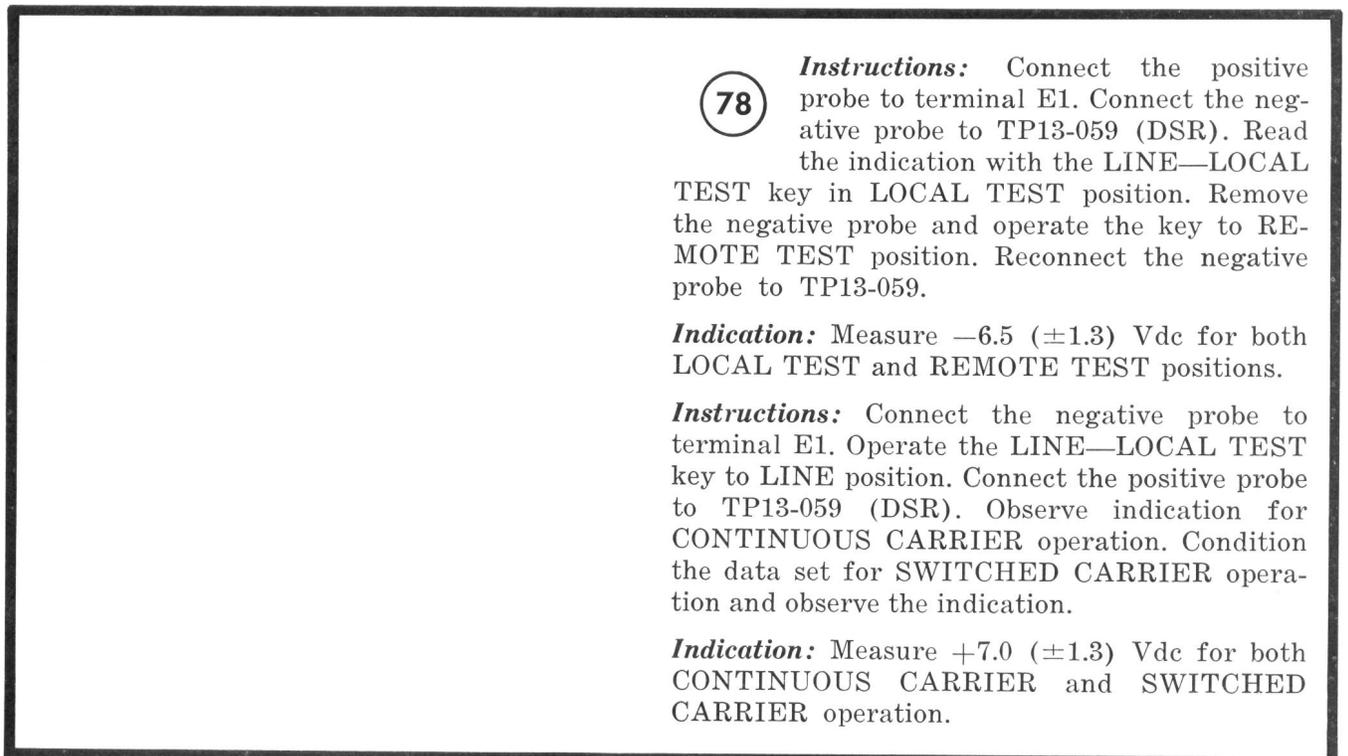
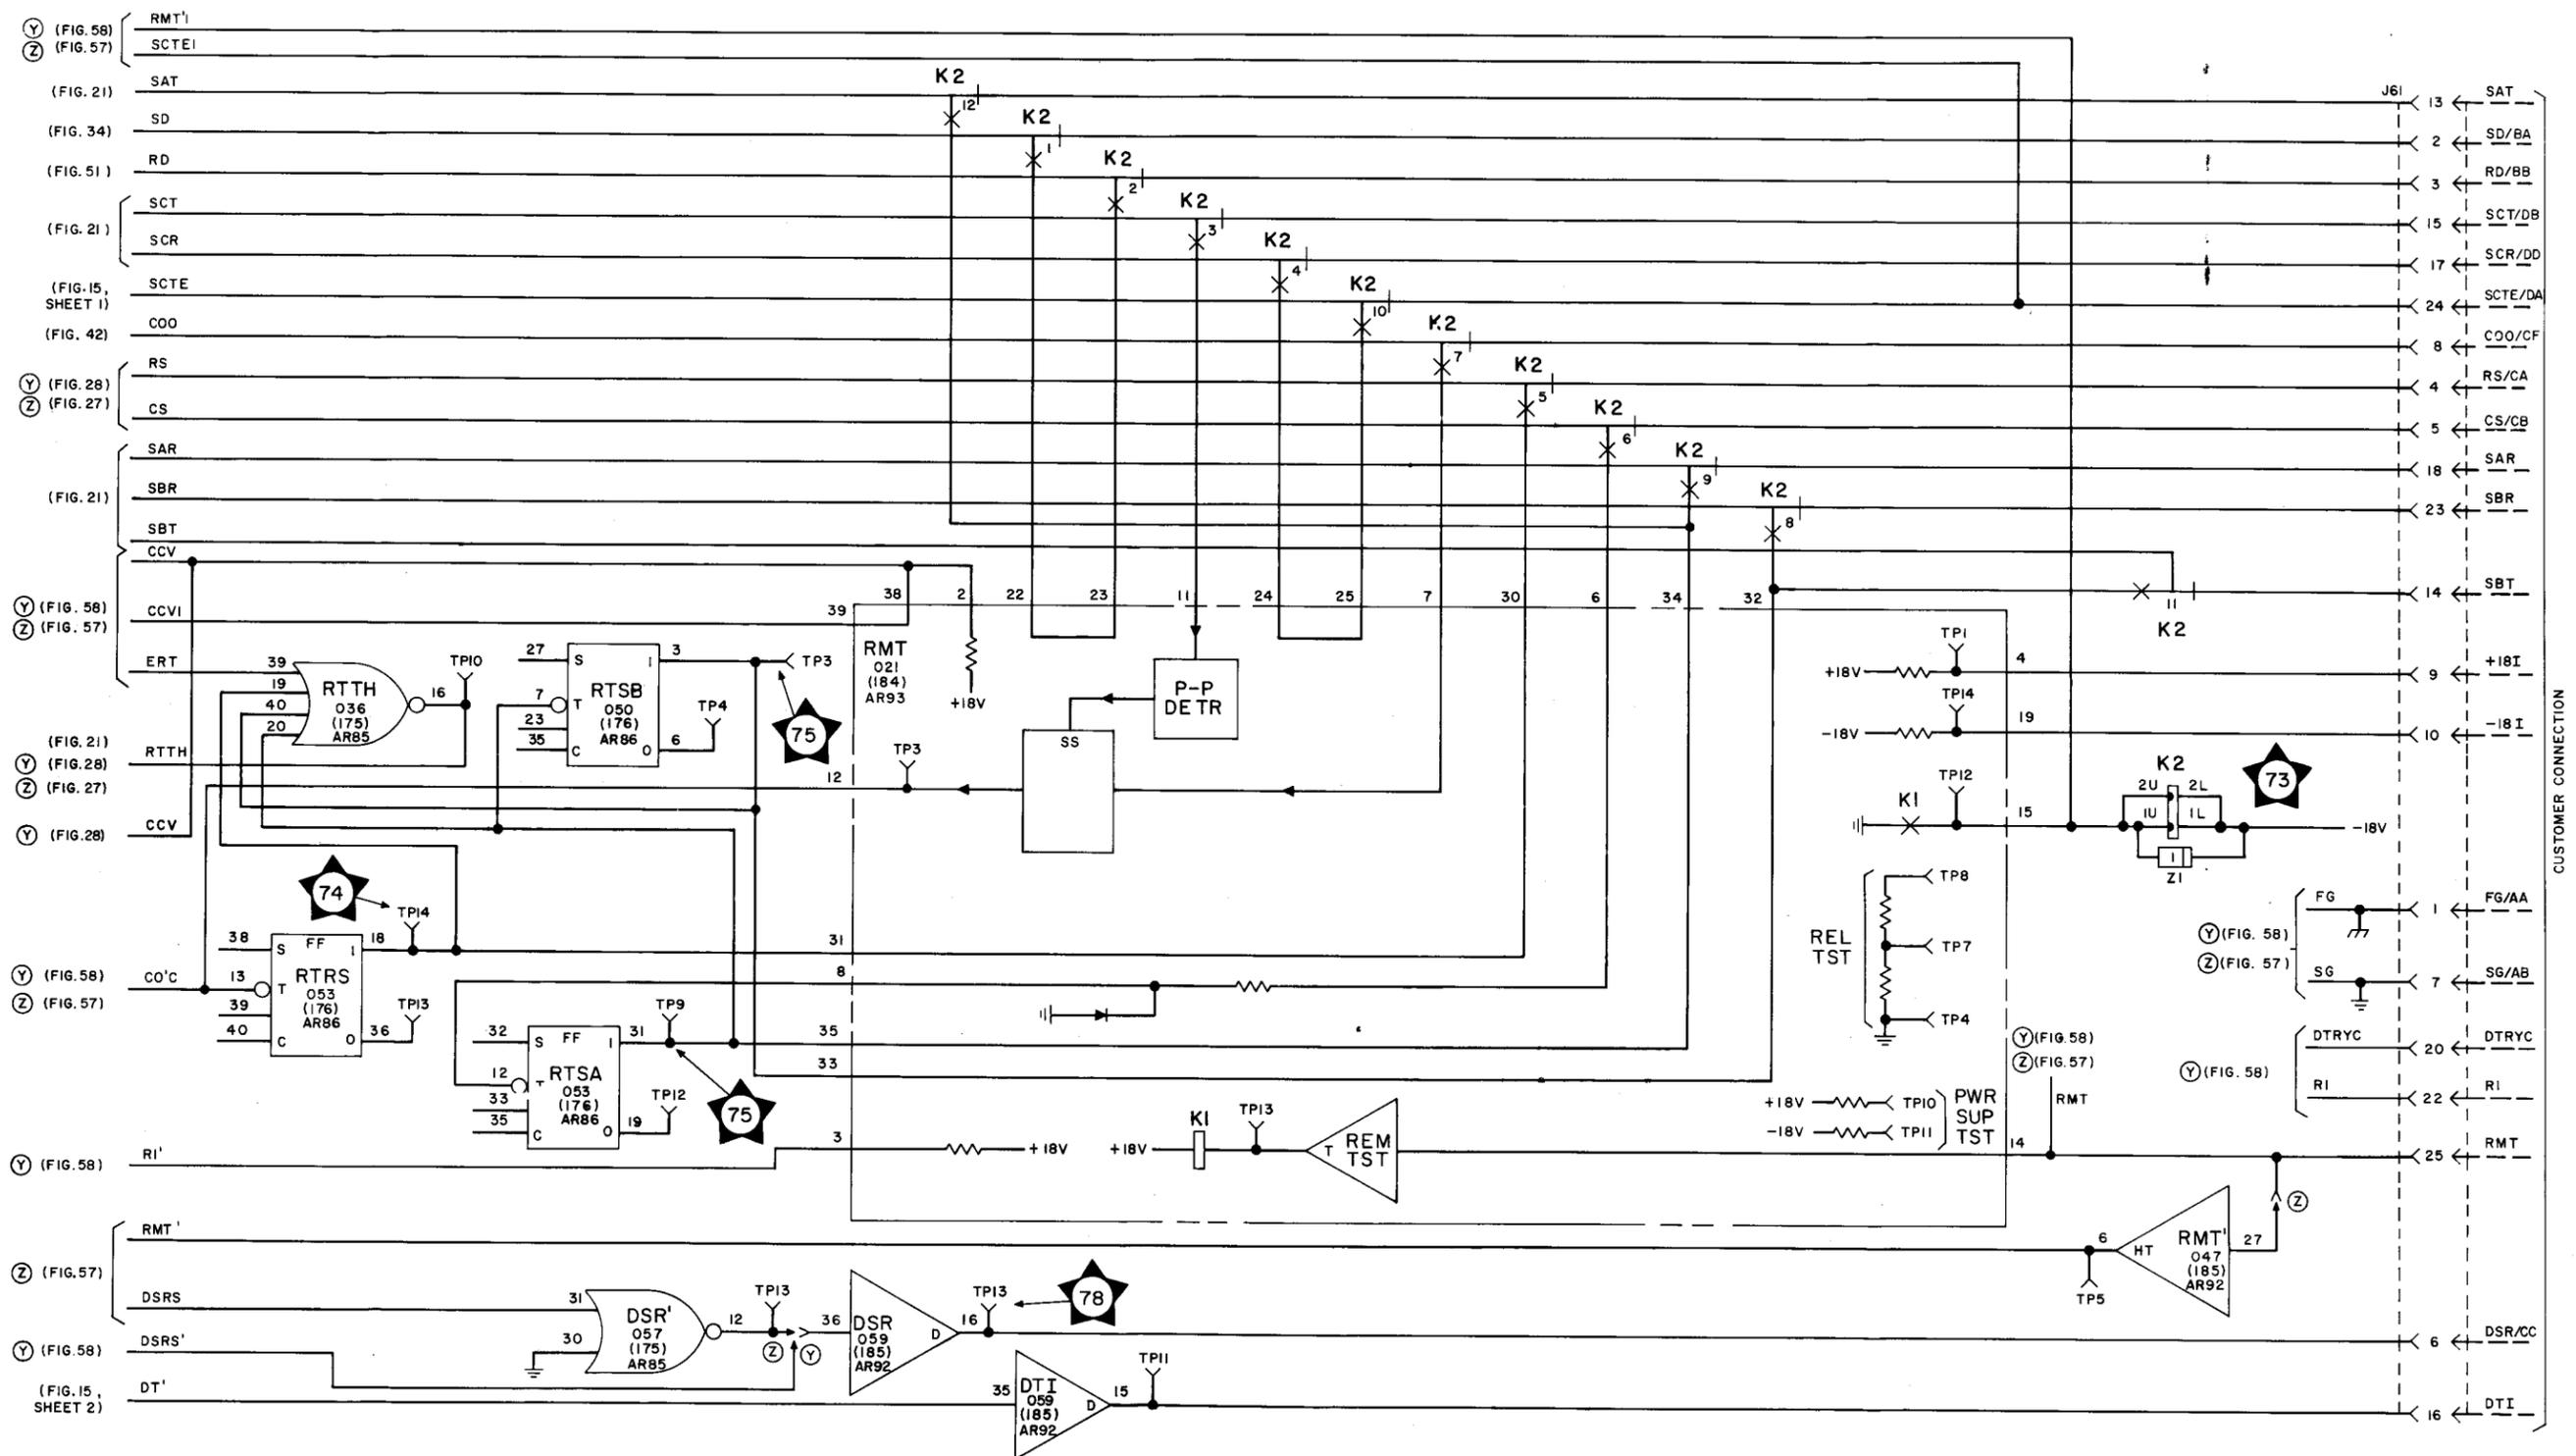
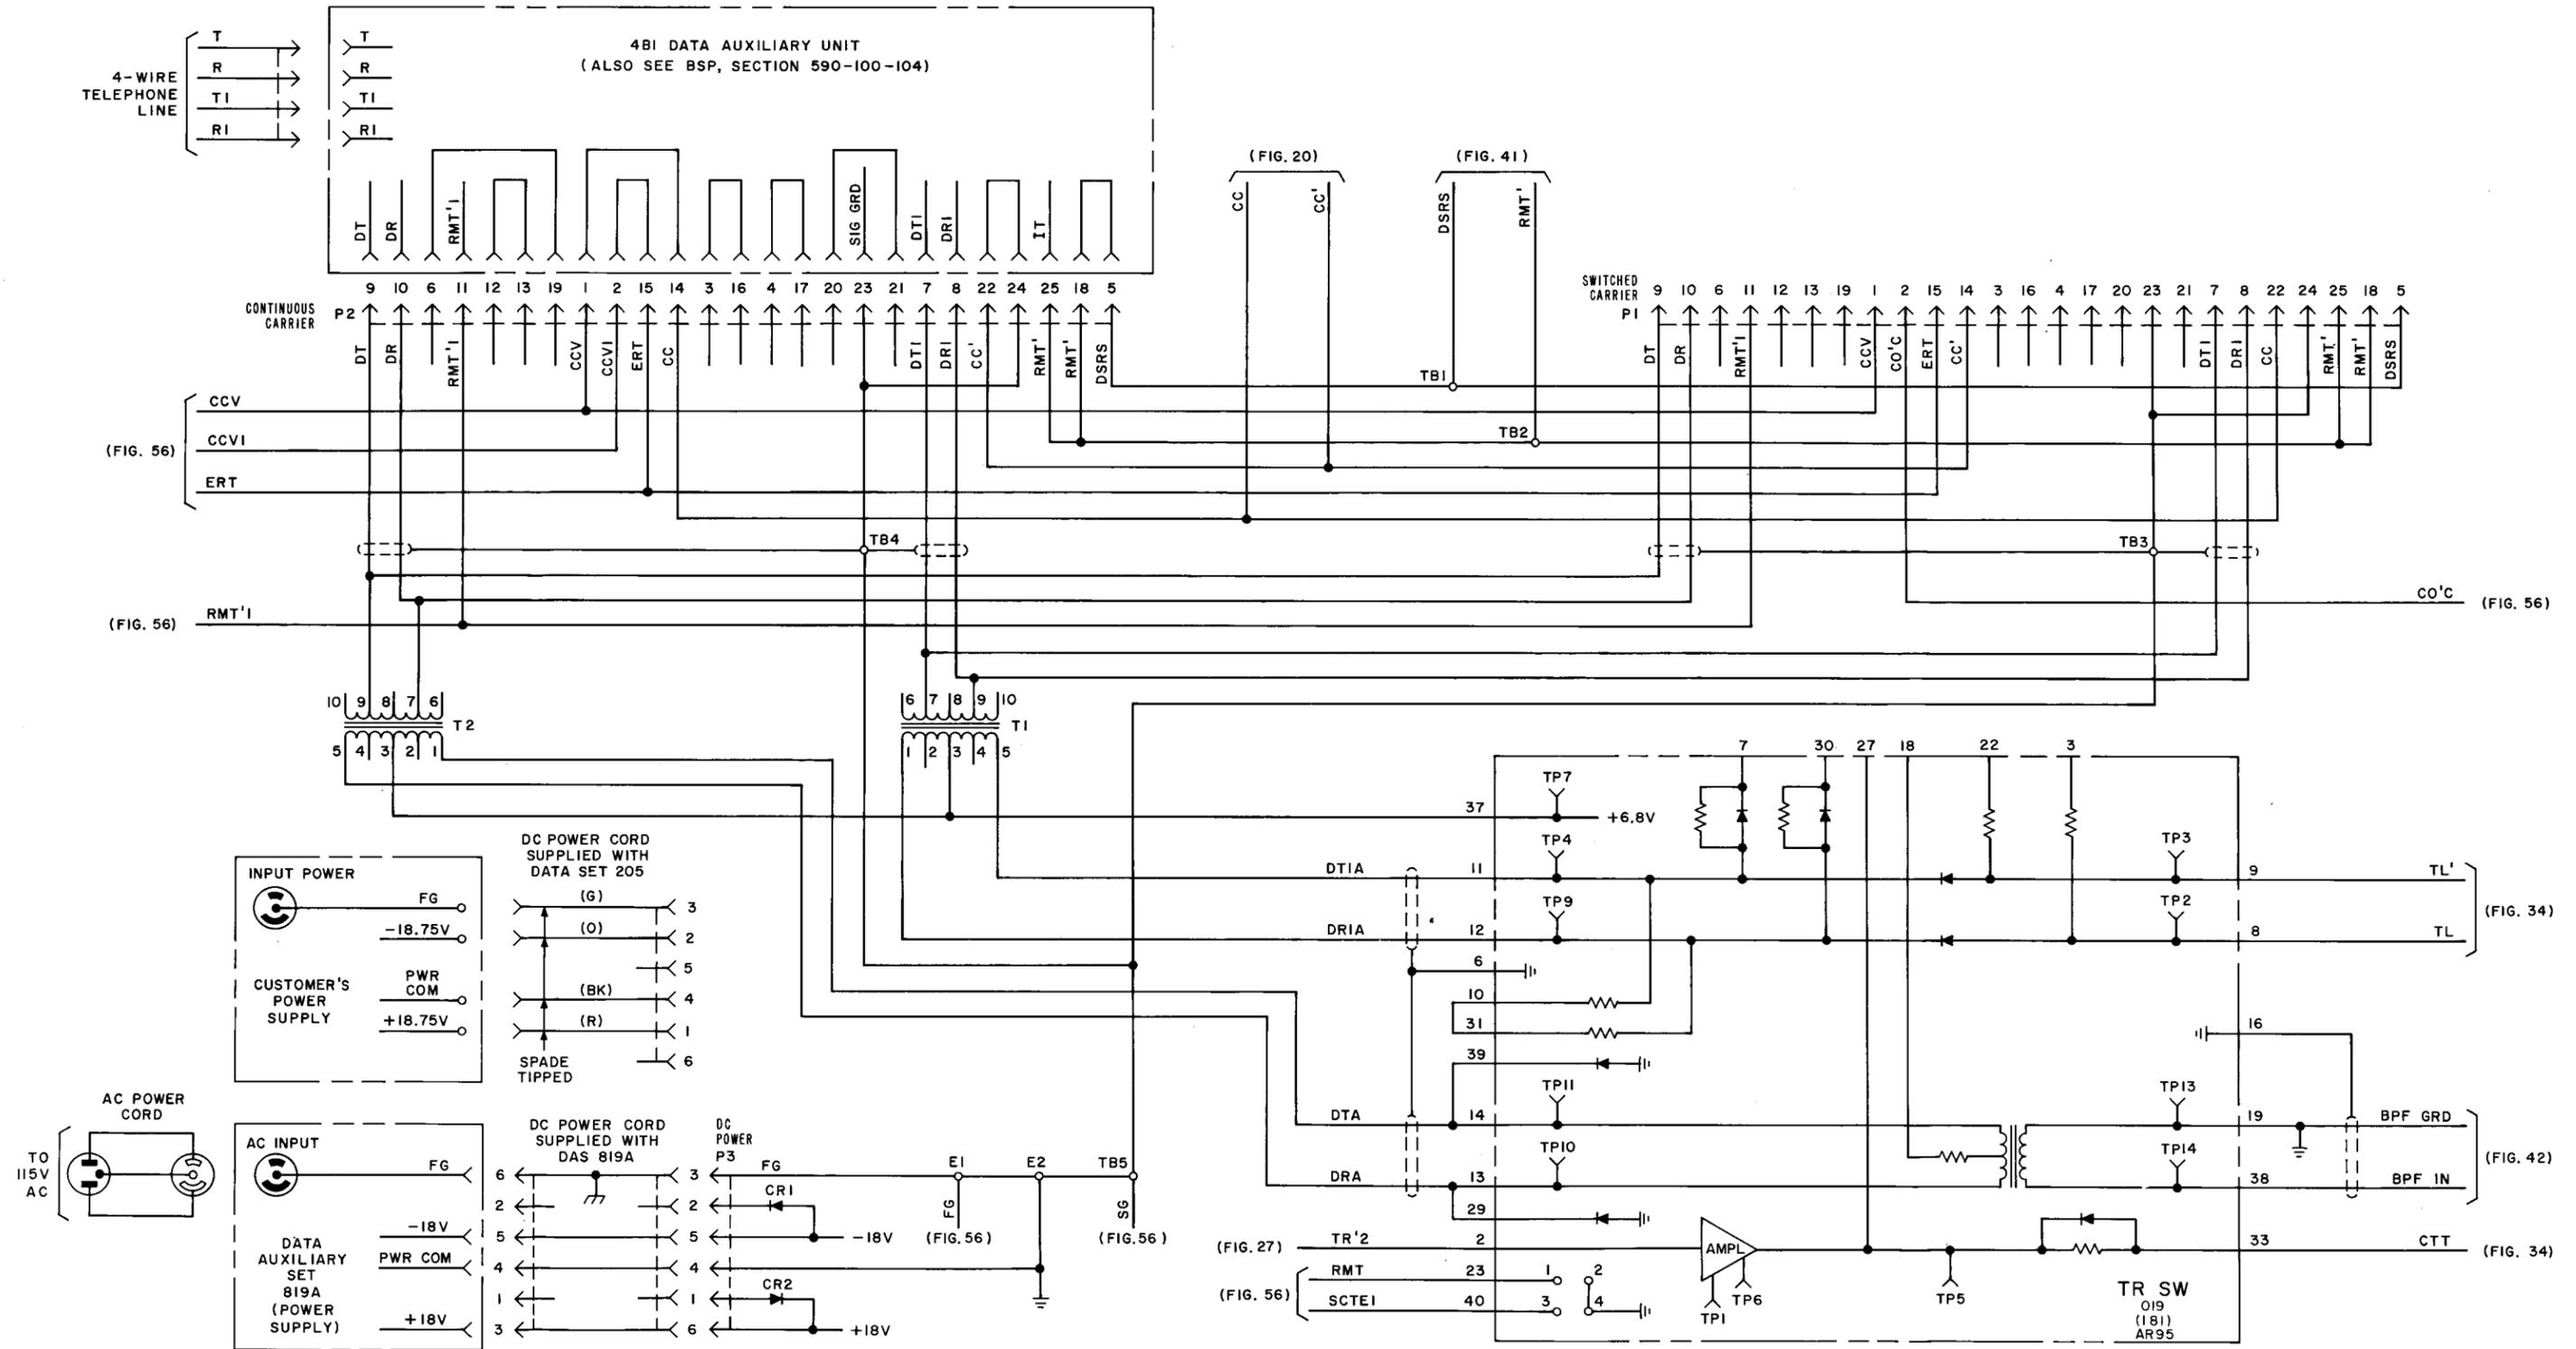
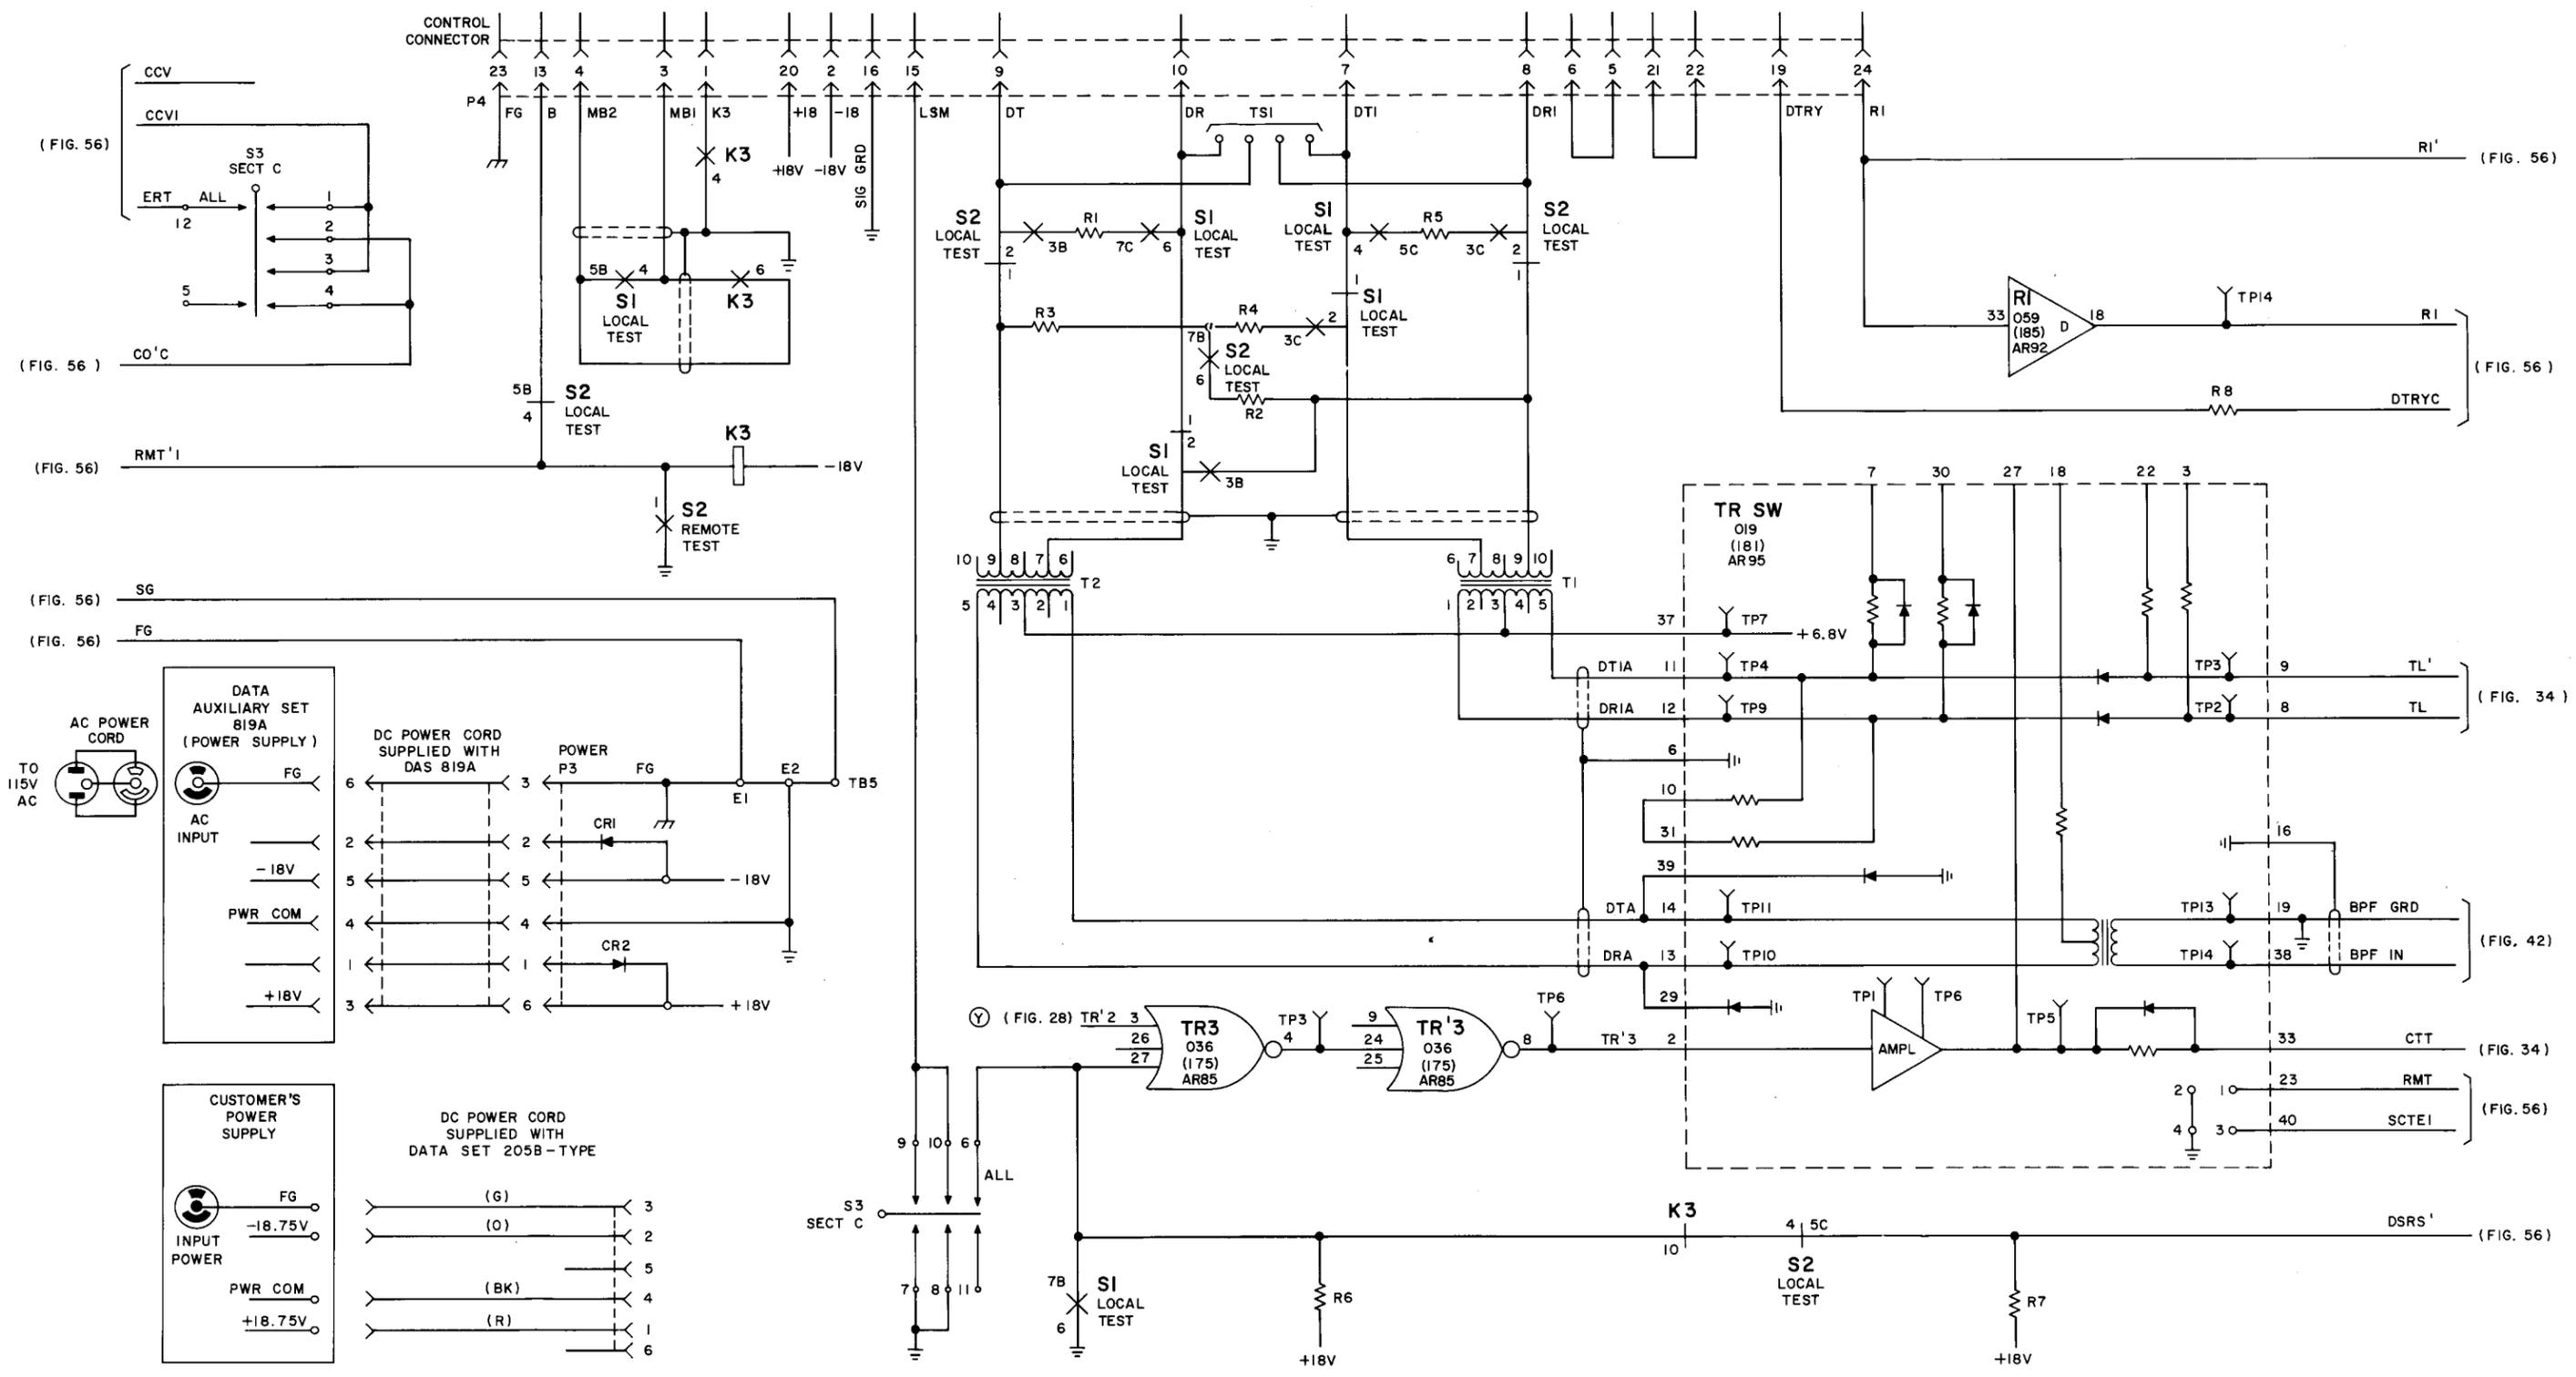

Fig. 55 — Remote Test Circuit Tests
Fig. 56— Interface Connections and Remote Test, Functional Schematic
Fig. 57—Line Connector, TR Switch and Power Supply, Functional Schematic for Data Set 205B1
Fig. 58—Line Connector, TR Switch and Power Supply, Functional Schematic for Data Set 205B2
11.33 Waveforms and voltage requirements for REMOTE TEST operation, shown in Fig. 53 through Fig. 55, are keyed to the functional schematic shown in Fig. 56.
Note: Test 74 is keyed to Fig. 27 and Fig. 56. Test 74A is keyed to Fig. 28 and Fig. 56. Test 76 is keyed to Fig. 15, sheet 1. Test 77 is keyed to Fig. 15, sheet 2, and Fig. 52, sheet 2. Figure 57 shows the 205B1 line circuit connection provided by the 4B1 Data Unit connection cord which permits switched carrier or continuous carrier operation. Figure 58 shows similar operational connections for Data Set 205B2.